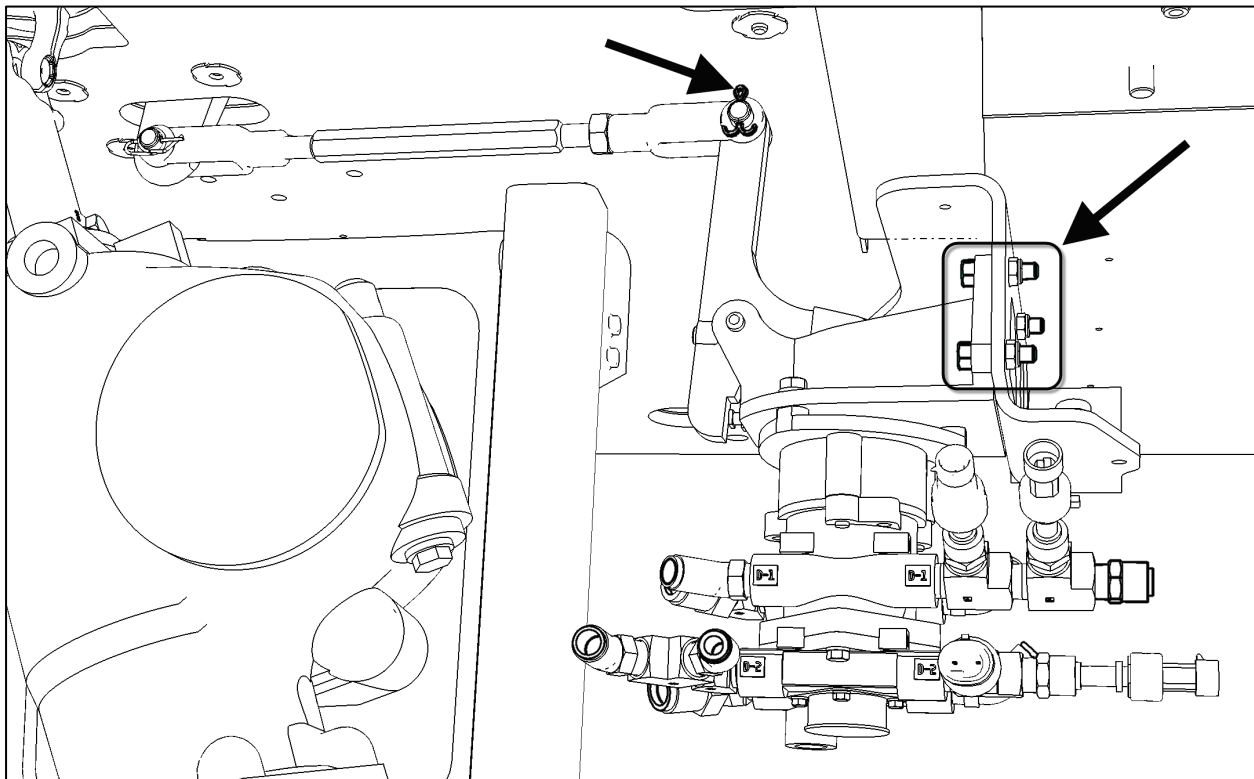

Figure 1
3. Locate the brake valve. (Fig. 1)
4. Disconnect air lines remove linkage and remove valve.(Fig. 1)
5. Replace brake valve with model E8P #642211.(Fig. 1)